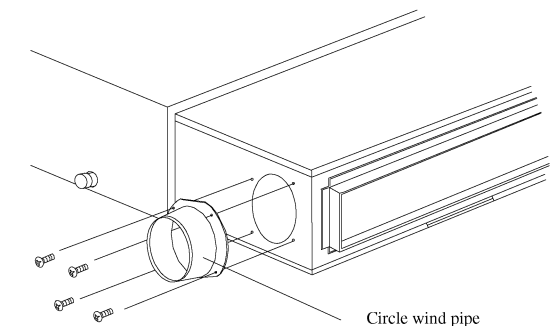

Fig.21
2. Install the circle flange so that the new wind pipe can be connected as fig.21.